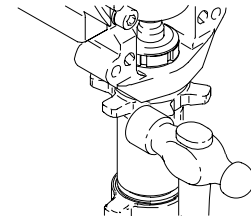

Fig. 13 7673B
4. Fig. 13. Loosen locknut by hitting firmly with a 20 oz (maximum) hammer. Unscrew pump.